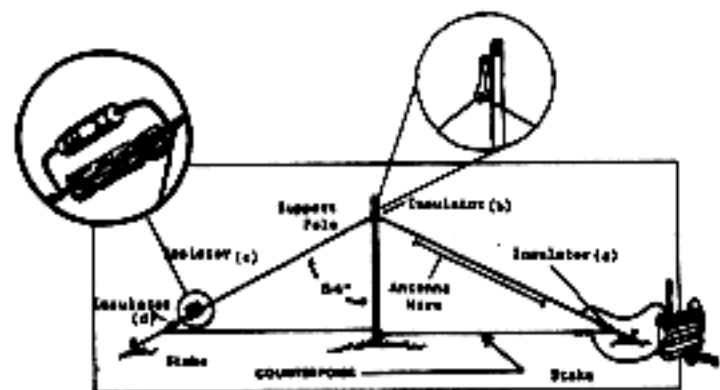
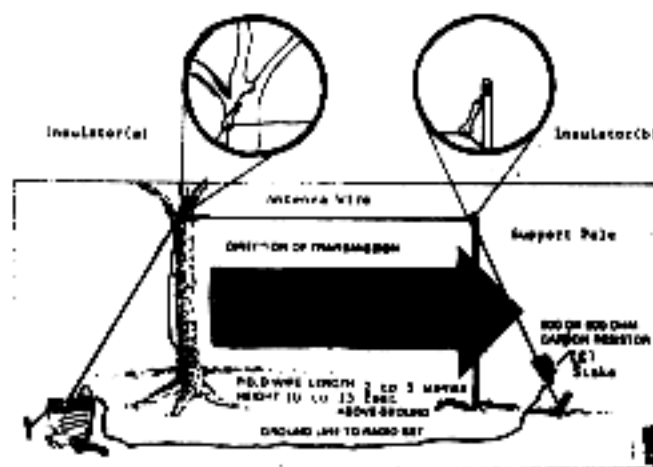
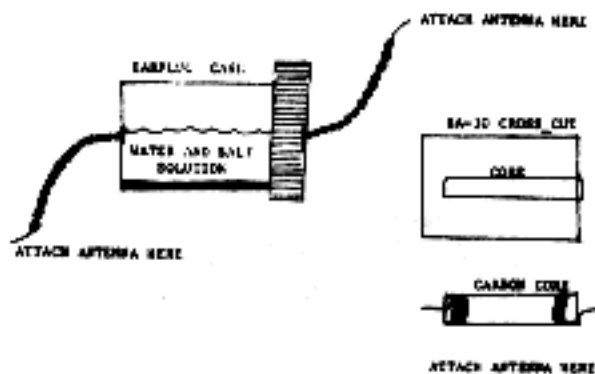

Figure 7-5. Vertical half-rhombic antenna.
Figure 7-6. Long-wire antenna
Figure 7-7. Expedient resistors. 500 to 1000 ohms (approx.)
d. Expedient Directional Antennas. The vertical half-rhombic figure 7-5, and the long wire antenna figure 7-6, are two expedient directional antennas. These antennas consist of a single wire, preferably, 2 or more wavelengths long, supported at a height of 3 to 7 meters (10 to 20) feet above ground. The antennas will, however, operate well as low as 1 meter above ground. The far end of the antenna is connected to a resistor of 500 to 600 ohms. Your commo sergeant can assist you in getting a resistor or you can fabricate one as in figure 7-7. A good ground, such as a number of tent stakes driven directly under the antenna or a counterpoise should be used to ensure that the earth does not absorb most of the radio's output. The radiation pattern is directional towards the end with the resistor.
f. Expedient Long Wire Antenna. The expedient long wire antenna is a directional antenna that can be easily fabricated out of readily available materials. A 500 to 700 ohm resistor should be used at the far end of the antenna, this can be acquired from your commo sergeant or made as in figure 7-7. To construct this antenna, cut the antenna wire (WD-1) to a minimum of 2 and up to 5 full wavelengths of your operating frequency. Attach one end of the wire to the long whip base of the radio set then run it thru the insulator as shown in figure 7-6(a); run the wire thru the second insulator 7-6(b) down to the resistor 7-6(c) and terminate the antenna wire at the ground stake. Attach another wire to the opposite end of the resistor and run this wire back to the radio set and attach it to the radio set case (ground). Direction of transmission will be towards the end of the antenna with the resistor. Turn on radio and attempt communications.
a. An old cylindrical type ear-plug case makes the simplest and most adequate resistor. To make a resistor, cut the chain on the earplug case close to the center. Open the case and fill it with water from your canteen, pour 1 to 2 packets of salt from your MRE accessory pouch into the water and reseal the container. Attach one end of the antenna wire to one side of the earplug case figure 7-7, attach the other side of your antenna wire to the opposite side of the earplug case and complete the circuit as in the instructions for the specific antenna.